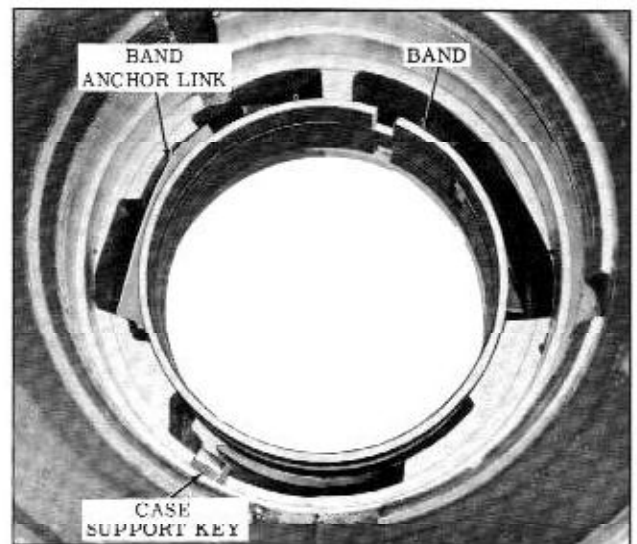

Fig. 3-55 Band and Band Anchor Link
57. Remove the case center support assembly. If unit does not remove easily, tap on the back of support with a brass drift. Remove the case center support key from the transmission case. (Fig. 3-55)
59. Lift the band and band anchor link out of case. (Fig. 3-55)